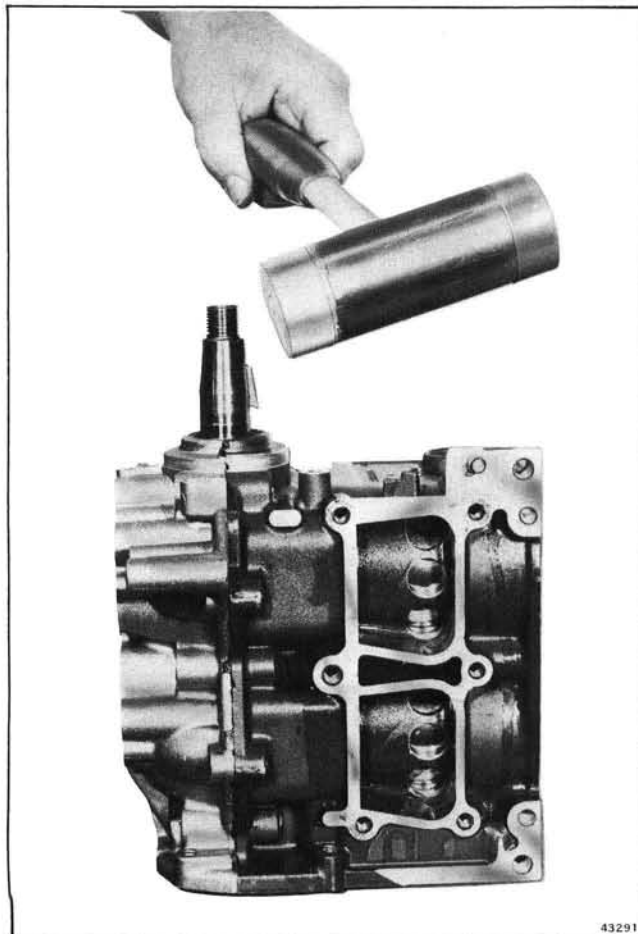

Figure 5-18. Separating Crankcase
i. Tap crankshaft with soft mallet to break seal between crankcase and cylinder. See Figure 5-18. Remove crankcase from cylinder block.